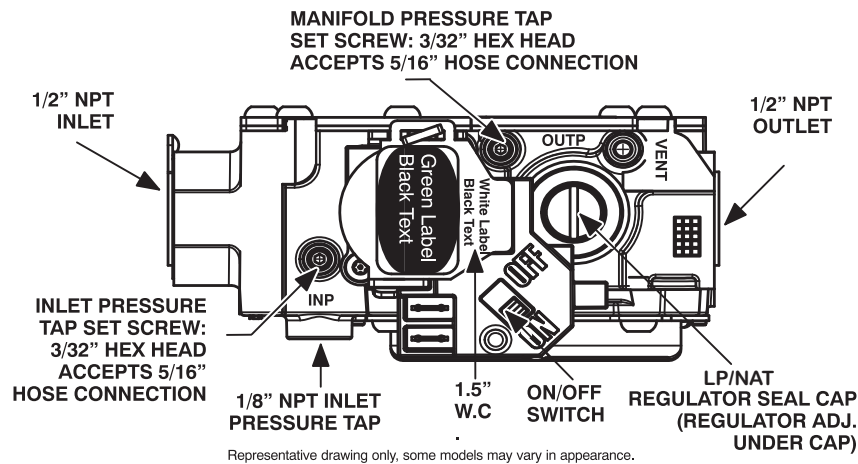

Fig. 2 – Low Capacity Gas Valve with Tower Pressure Ports
2. Loosen set screw on inlet tower pressure tap no more than one full turn with a 3/32-in. hex wrench. (See Fig. 2.)
3. Connect a manometer to the inlet pressure tap on gas valve using a 5/16" hose. (See Fig. 2.)
13. Remove manometer and hose from the inlet pressure tap of the gas valve. (See Fig. 2.)
14. Tighten set screw on inlet tower pressure tap with 3/32-in. hex wrench. (See Fig. 2.)
- b. Loosen set screw on manifold tower pressure tap no more than one full turn with a 3/32-in. hex wrench. (See Fig. 2.) Connect manometer by sliding 5/6" connecting hose over the manifold tower pressure tap.
- Remove regulator cover screw over plastic adjustment screw on gas valve (see Fig. 2).
- Turn plastic adjustment screw clockwise to increase gas input, or turn plastic adjustment screw counterclockwise to decrease input (see Fig. 2). Manifold pressure must be between 3.2 and 3.8 IN. WC.
- Replace regulator cover screw on gas valve (see Fig. 2).
- If using the tower pressure port, remove connecting hose. Tighten set screw on manifold pressure tap using a 3/32" hex wrench. (See Fig. 2.)